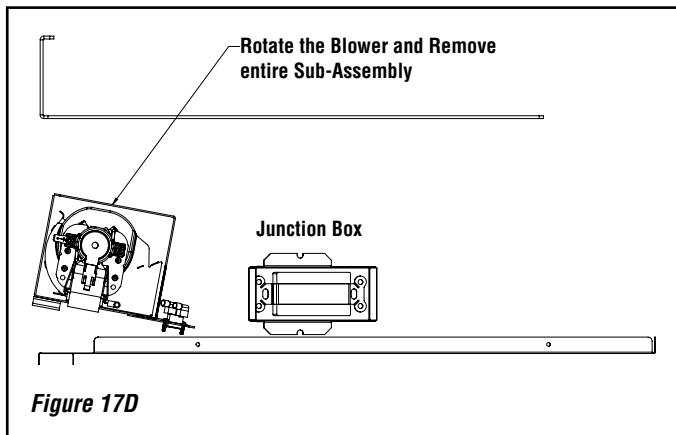

Figure 17D
8. Rotate the blower forward and remove it from underneath the firebox (**Figure 17D**). Disconnect the insulated quick connects from the motor terminals and attach to the new motor assembly. Re-install in reverse order.